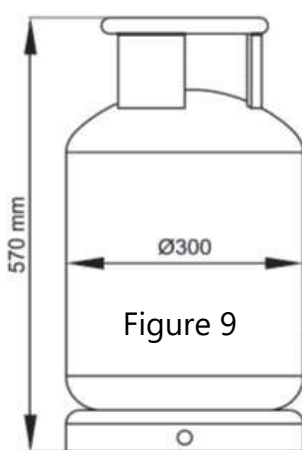

Figure 9
- The dimensions of the gas cylinder must be within the values in Figure 9.